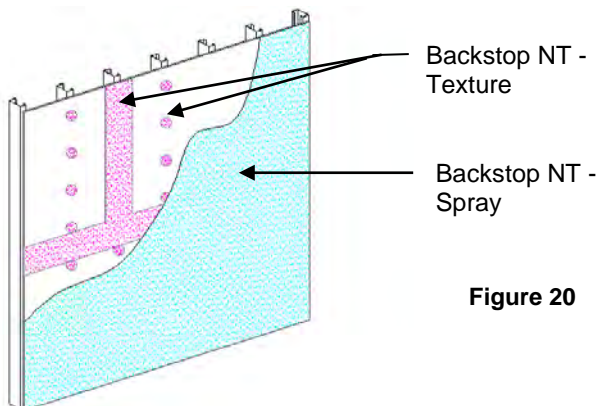

Figure 20
- NOTE: OSB sheathing requires that joints and fasteners be treated with Backstop NT - Texture. A minimum of two (2) coats of Backstop NT - Spray are required for the field of the wall. Backstop NT - Texture is not recommended for application in the field of the board.**
- 1) Backstop NT - Spray material should be applied in a uniform, continuous film at the recommended coverage rate free of voids and pinholes – Figure 20. **NOTE: Sheathing substrates with a surface texture or high porosity will require additional material.**